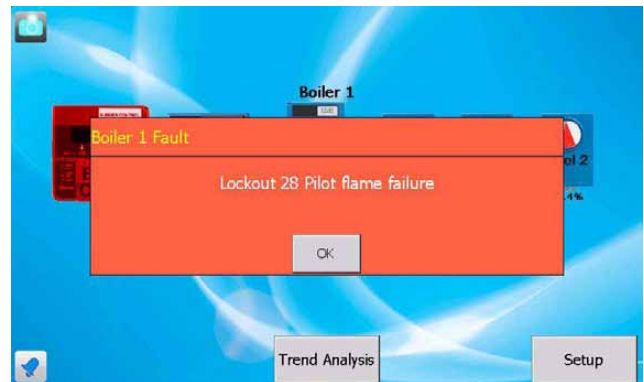

Fig. 22. Home Page With Active Alarm.
5. When the “Sound audio alarm for fault?” box is checked, the internal speaker of the S7999D will be activated and a 2-tone alarm will sound whenever a fault occurs in one of the controllers connected to the S7999D. Use the volume slider bar to adjust the volume level. Also an “alarm bell” icon will be displayed in the lower left hand corner of the screen. (See Fig. 22). Touching the “alarm bell” icon or touching the “OK” button, in the Fault dialog box will turn off the S7999D audio alarm for the current fault.